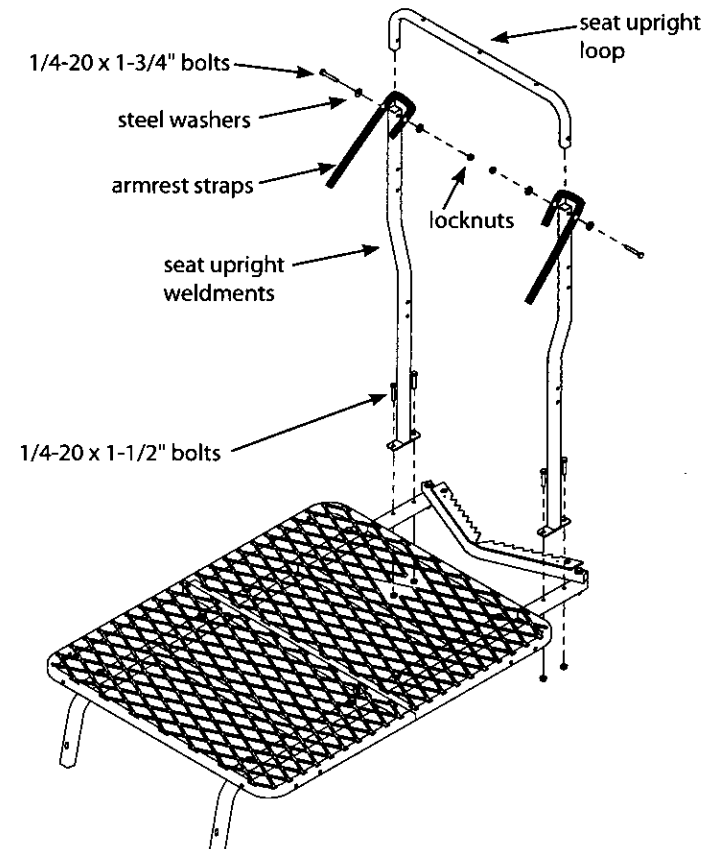

Figure 3
4. Attach the (2) seat upright weldments (410005) to the platform J-pipes using (4) provided 1/4-20 x 1-1/2" bolts and locknuts. **SEE FIGURE 3.**
5. Attach the seat upright loop (410023) by inserting each end into the seat upright weldments. Secure these parts together along with the (2) armrest straps (410103) using (2) provided 1/4-20 x 1-3/4" bolts, locknuts and (4) steel washers. **SEE FIGURE 3.** Bolts must go through two holes in armrest straps. Armrest straps must wrap around back side of seat upright weldments.